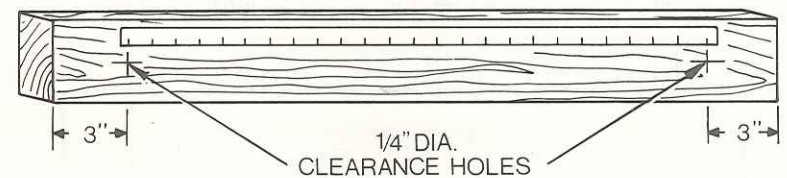

FIG. 9
10. Lay out the measured distance on the 3½" wide face on each of the boards as shown in Figure 9, and drill ¼" body (clearance) holes. Center the hole pattern on the boards so that about 3 inches extend past the holes on each end.